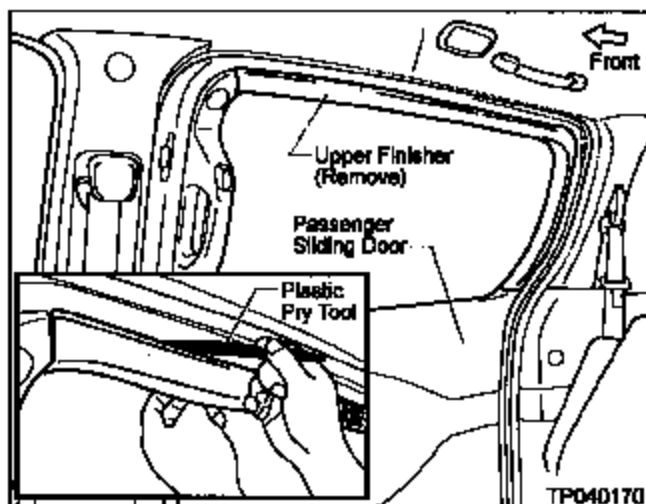

Figure J12
15. Remove the Upper Finisher from the Sliding Door (see Figure J12).
- Use a Plastic Pry Tool (J-46534\* or equivalent) to release the securing clips (see Figure J12).